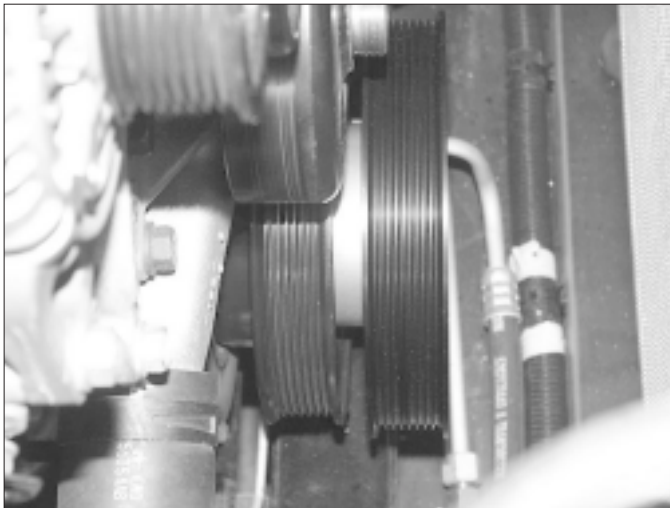

Fig. 3-a
- F. Install the supplied supercharge pulley using the supplied fasteners and lock tight. (See Fig. 3-a.)